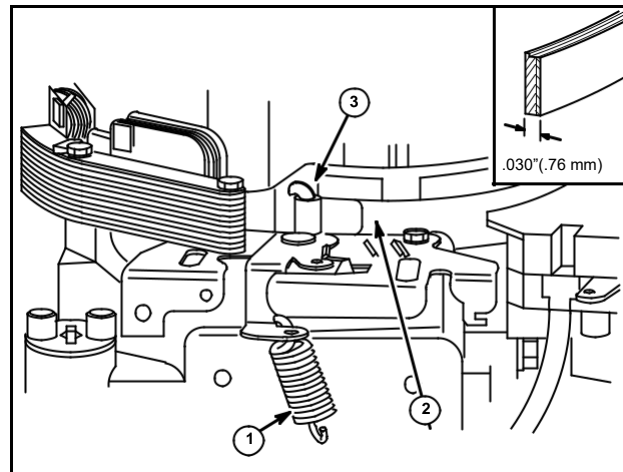

Fig. 119
2. On current style band brake brackets, release brake spring (1) and lift band brake (2) up off both stationary and moving posts (3), Fig. 119.
4. Replace band brake if brake material is damaged or worn to less than .030" (.76 mm) thick, (inset, Fig. 119).
3. On new style brackets, place band brake on stationary post and hook over end of movable post until band bottoms, Fig. 119.